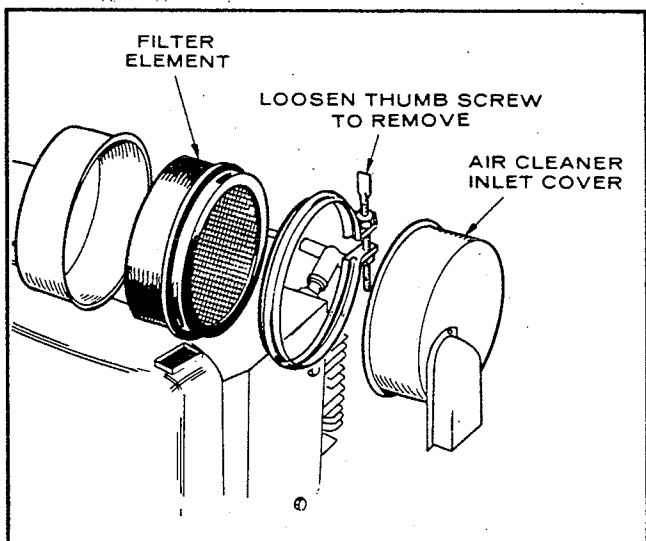
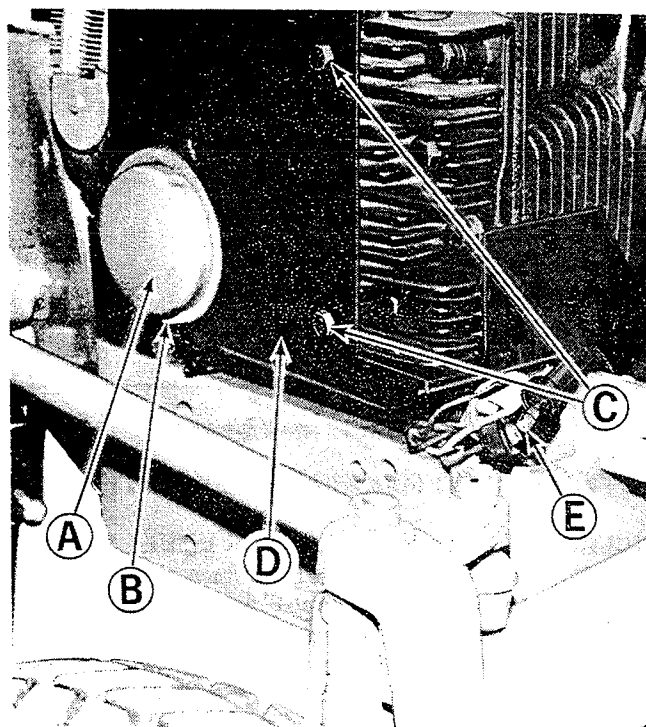

Figure 25. Air filter removal.
Figure 27. Right front cover of engine.
**CLEAN ENGINE AIR FILTER:** See figure 25. The air filter element should be removed and cleaned every 50 hours or more under dusty operating conditions. Proceed as follows:
**REPLACE ENGINE OIL FILTER:** (See figure 27) Every 100 hours or every other time the engine oil is changed, the oil filter (A) should be replaced. Replace the oil filter after the oil has been drained during an oil change, but before adding the new oil. Proceed as follows:
3. Install the foam strip over the new filter (Figure 27, item B) to prevent loss of cooling air.
**CLEAN ENGINE FINS:** See figure 27. The engine cooling fins should be cleaned every 200 hours or more often if material accumulates in them. Proceed as follows:
1. Remove the capscrews (C) from the air shrouds (D) on each side of the engine.
**REPLACE THE AIR CLEANER ELEMENT:** See figure 25. The air cleaner element should be replaced every 200 hours or more often if dusty operation conditions cause it to become too dirty to be cleaned effectively.